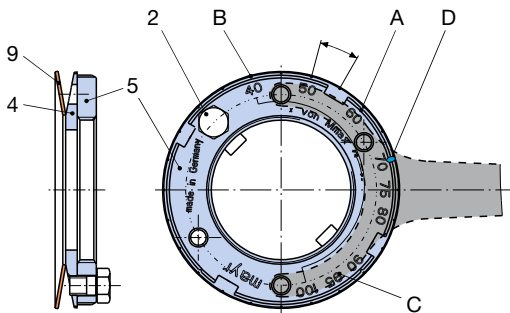
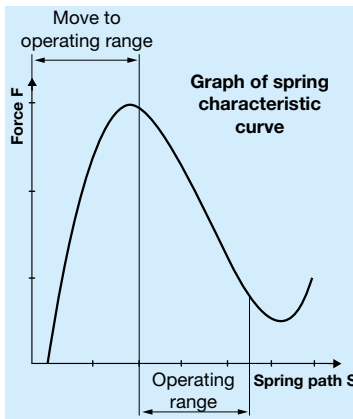

Fig. 1: EAS®-Compact® ratchetting and synchronous clutch
Fig. 3
The installed cup springs (9) are operated in the negative range of the characteristic curve (Fig. 3). A stronger pre-tension produces a dropping in spring force. Turning the adjusting nut (5) (Sizes 03 to 3) or the set screws (6) (Sizes 4 and 5) clockwise therefore produces a decrease in spring force. Turning it anti-clockwise produces an increase in torque (facing direction towards the adjusting nut (5) – Figs. 1 and 2).